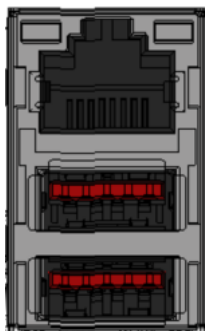
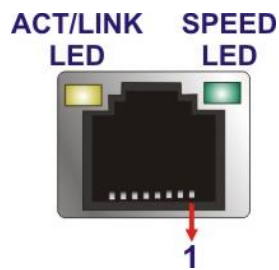

Figure 3-28: USB 3.2 Gen2 and LAN Connector
Figure 3-29: LAN Connector
- CN Location:** See **Figure 3-28** and **Figure 3-29**